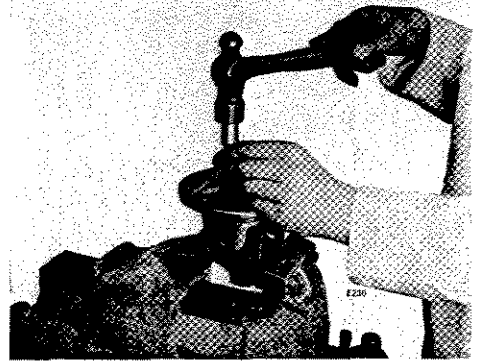
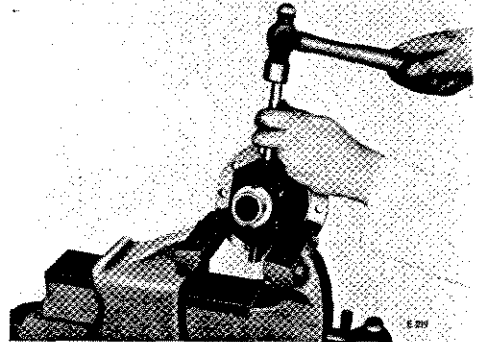

Fig. 70. Driving out the cross shaft pin
Fig. 71. Drifting out the cross shaft
Drive out the cross shaft locking pin (6), Fig. 70, and drift out the cross shaft (3), Fig. 71. Rotate both sun wheels (2) through 90°, thus bringing the planet wheels (4) in line with the apertures in the differential cage.